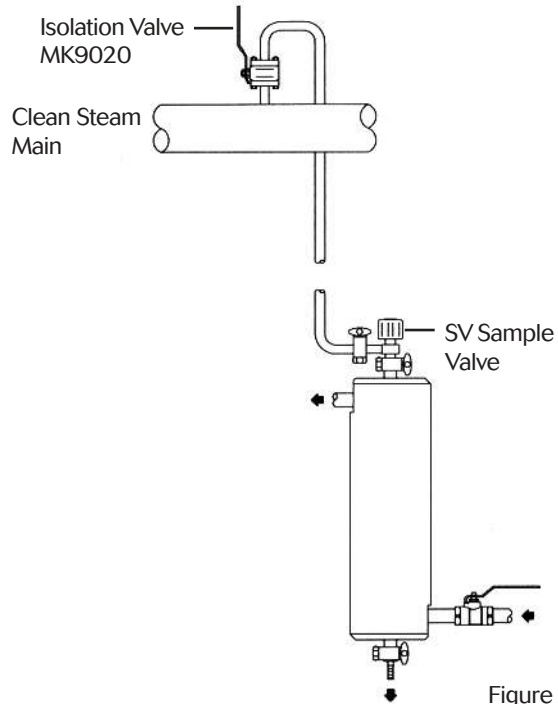

Figure 2
If the steam supply is to be isolated with a valve adjacent to the steam main (Fig. 2) then the system connection of the SV should be connected to the inlet of the SC60 as illustrated. When installed in this orientation any residual condensate formed in the supply pipe-work will flow freely through the sample cooler once the main steam line is closed.
isolate the cooling water supply (2). If sampling steam, and the supply is to be isolated at the steam main (Fig. 2), both the sample and cooling water valves should be left open after isolation of the steam supply to allow any residual heat energy in the supply pipework to dissipate. Once the system has cooled, the water supply may be isolated.